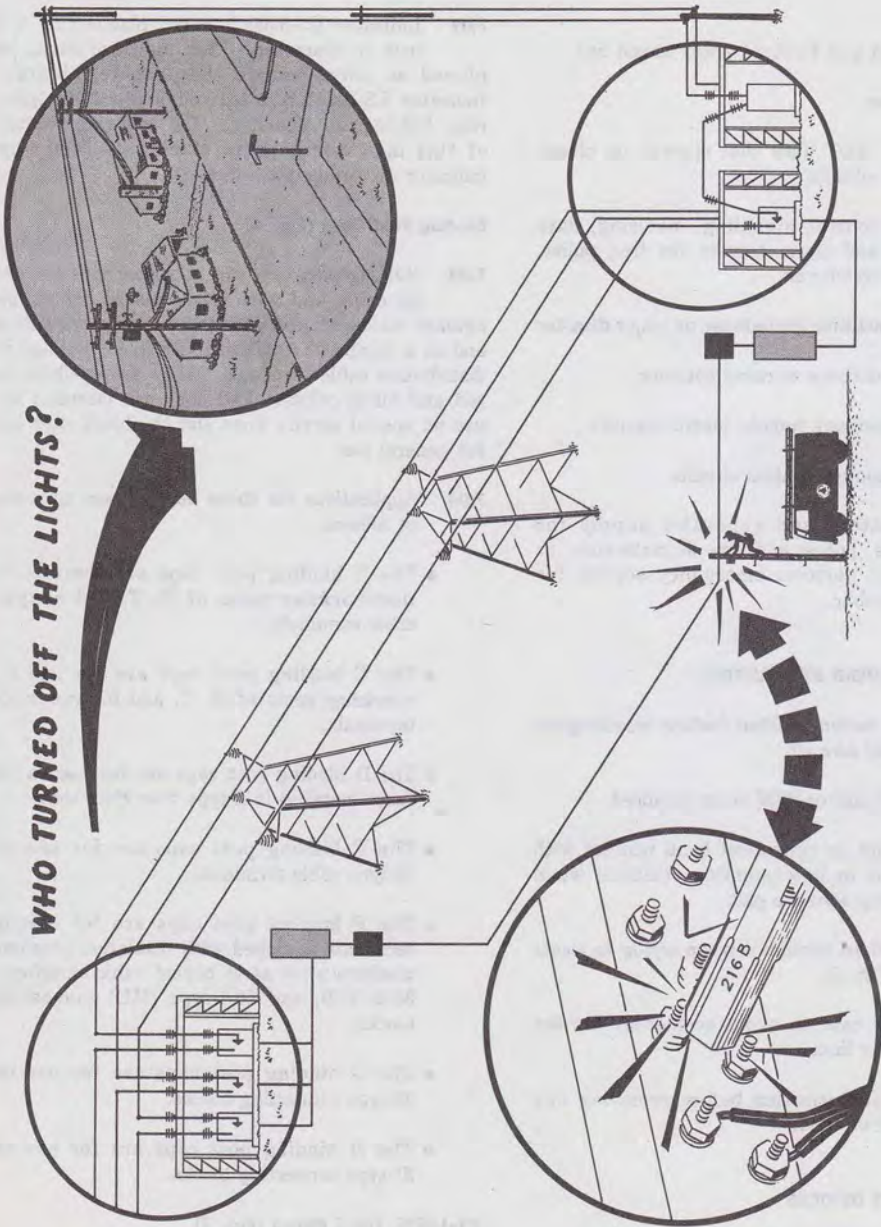

Fig. 2—Who Turned Off The Lights?
- Do not short terminals when trying to locate a pair (Fig. 2).